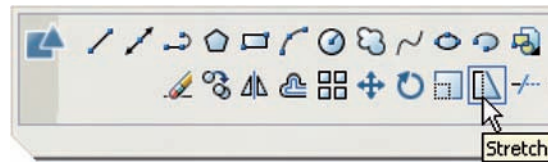

Fig. 5.34 The **Stretch** tool icon from the **2D Draw control panel**
- Call the **Stretch** tool – either *click* on its tool icon in the **2D Draw control panel** (Fig. 5.34), or *left-click* on its tool icon in the **Draw** toolbar, or *pick* its name in the **Modify** drop-down menu, or *enter s* or **stretch** at the command line, which then shows: